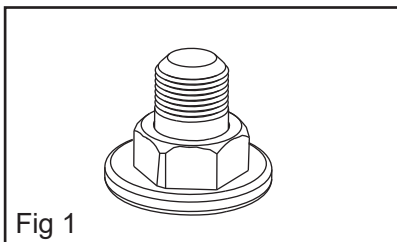

Fig 1
- 1 Choose a suitable-sized twist socket and fit to the nut to be removed (Fig. 1 and 2).